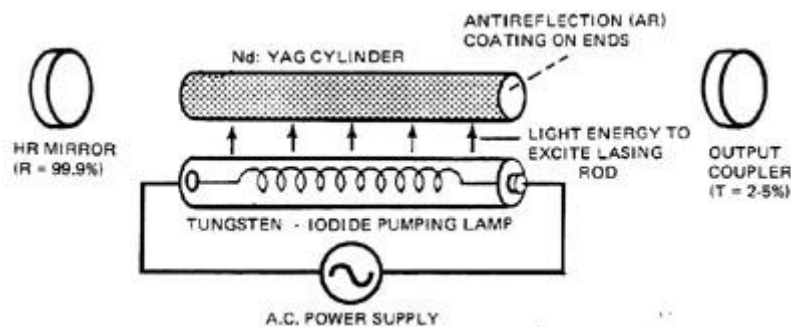
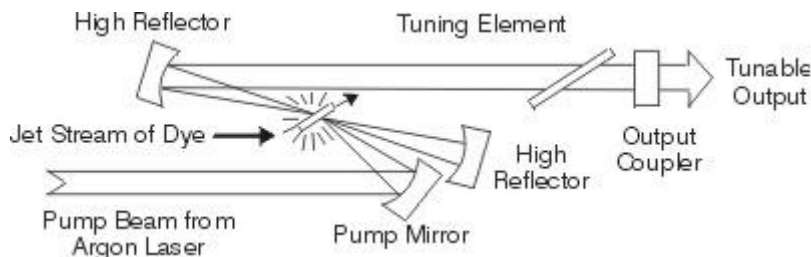

Fig. 15
Fig. 16
(48) Another important family of lasers contains solid crystalline or glass material as an active medium. Ruby and neodymium are two common examples of solid lasers with widespread industrial applications. Ruby is crystalline aluminum oxide in which some of the aluminum ions in the crystal lattice have been replaced by chromium ions. These chromium ions are the active elements in the ruby laser. Yttrium aluminum garnet (YAG) is the crystal host for Nd:YAG lasers; some of the aluminum in the YAG is replaced by triply-ionized neodymium (Nd^{3+}), a rare earth element. Glass is also used as a host for neodymium lasers.
(49) Figure 15 displays the components of a CW Nd:YAG laser. The active
(50) Pulsed Nd:YAG lasers have the same basic design, except that CW lamp and power supply are replaced by a xenon flashlamp and pulsed power supply. For example, if one replaces the tungsten-iodide discharge lamp in Figure 15 with either a Xenon flashlamp (as in Figure 16) or a pulsed laser diode, one can have re-rated pulsed laser operation in the place of CW operation. Ruby lasers are very similar in construction but are normally operated as pulsed lasers only. (John DeLeon)
(51) *Editor's Note:* John DeLeon called our attention to Figure 16, indicating that a change (update of laser system) is required. You will see that the figure and accompanying text have been changed in accordance with John's suggestion.
(52) Liquid dye lasers use a solution of a complex dye material as the active medium. The dyes are large organic molecules, with molecular weights of several hundred. Examples are rhodamine 6G and sodium fluorescein. The dye material is dissolved in an organic solvent, like methyl alcohol. Thus, the active medium is a liquid. Dye lasers are the only types of liquid lasers which have reached a well developed status. (John DeLeon)
(53) Figure 16 shows a diagram of a typical design. The pump source is an argon laser, whose beam is focused to a small spot. The argon laser is a gas laser which emits blue and green light. The dye flows in a high velocity jet with the argon laser beam focused on the jet. The reasons for use of the jet will be discussed in a later course. The wavelength of the output is adjusted by the tuning element. The types of tuning elements available also will be described later. (John DeLeon)